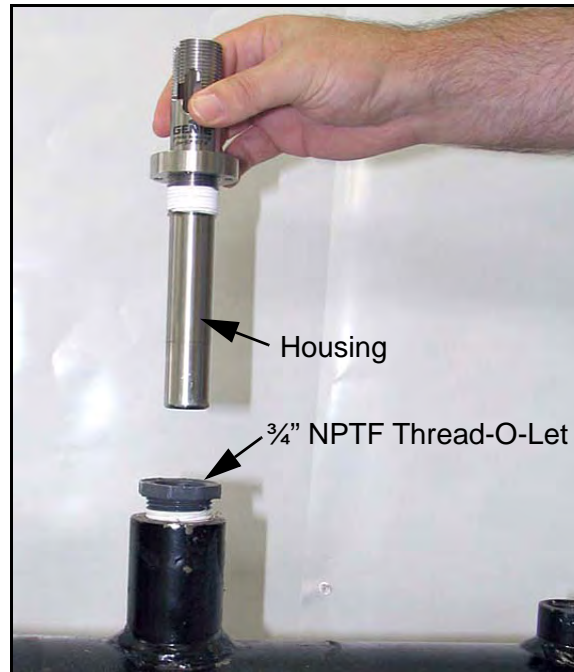

Figure 12: Inserting Housing into Pipeline
2. Confirm that the pipeline has been unpressurized. Refer to *Figure 12* below and insert the housing into the pipeline through a  $\frac{3}{4}$ " NPTF thread-o-let (The minimum ID of the thread-o-let is 0.91").